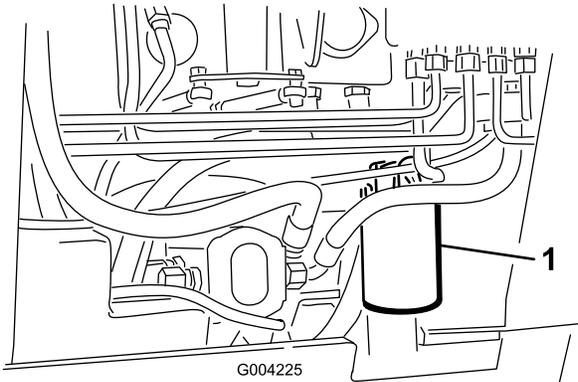

Figure 49
4. Place a drain pan under the filter (Figure 49).
5. Remove the old filter (Figure 49) and wipe the surface of the filter adapter gasket clean.
7. Install the replacement hydraulic filter onto the filter adapter (Figure 49). Tighten it clockwise until the rubber gasket contacts the filter adapter, then tighten the filter an additional 3/4 turn.